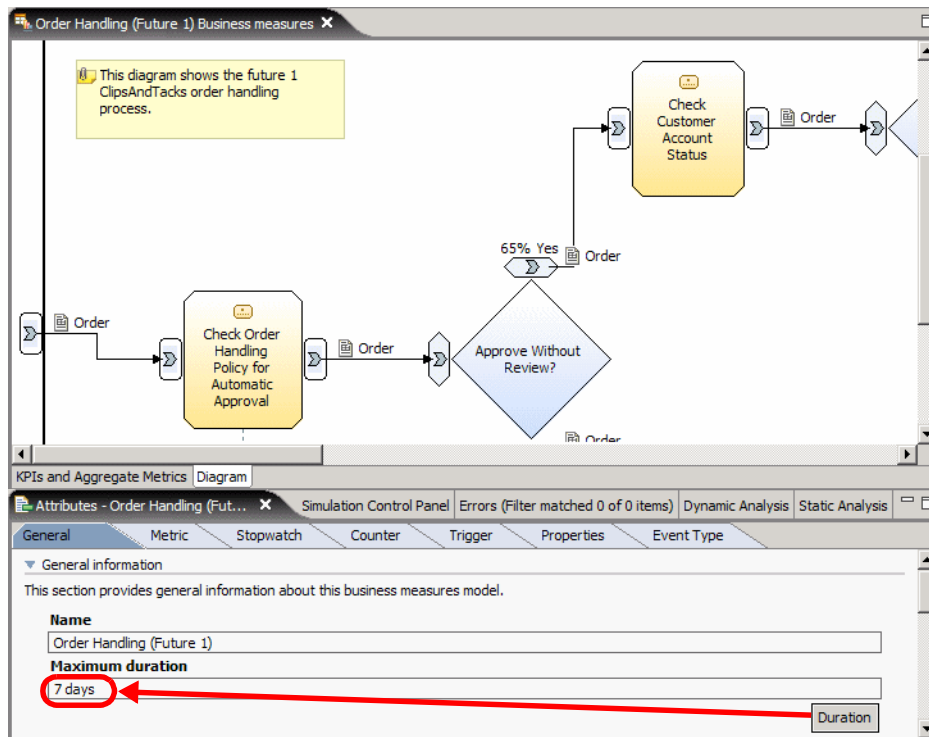

Figure 8-9 Business measures: Diagram and attributes
- ▶ Select the *Diagram* tab (Figure 8-9) to see a graphical representation of the business measures model. The attributes of the business measures model are displayed in the Attributes view. Set the duration of the process to 7 days.
- ▶ By default the Business Measures editor opens on the *KPIs and Aggregate Metrics* tab. Select the *Diagram* tab (Figure 8-9 on page 157).